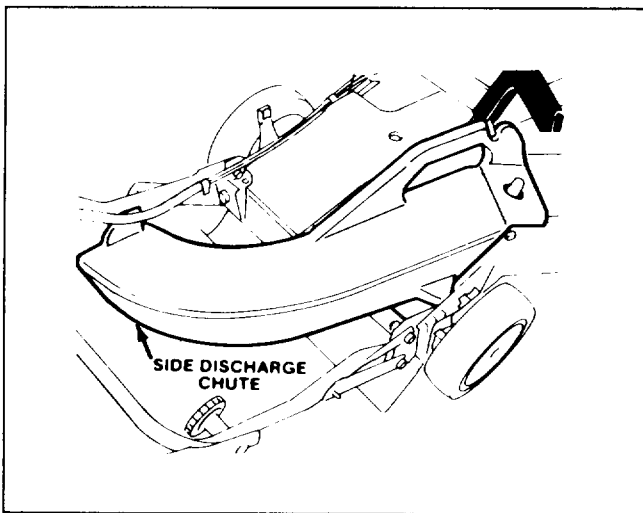

Figure 33
**1. Side Discharge Kit, Model No. 59168**—Installs in seconds. Rear mounted in place of the grass bag or Recycler plug. Disperses clippings while trimming on both sides (Fig. 33).